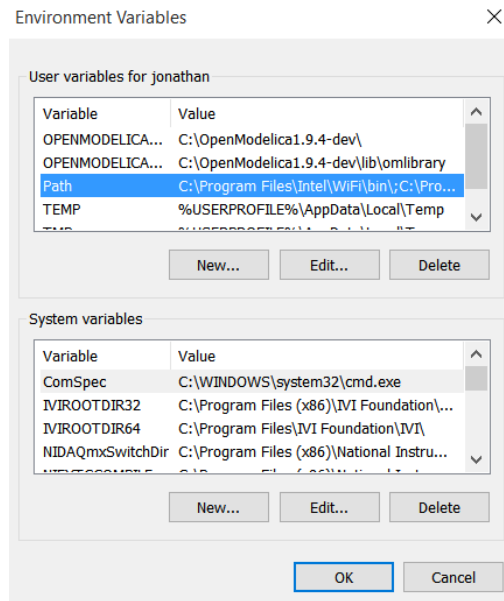

Figure 2: Environment Variables Dialog Box
- Click on the “Environment Variables” button and edit user variables. You should see a dialog box similar to the one shown in Figure 2.